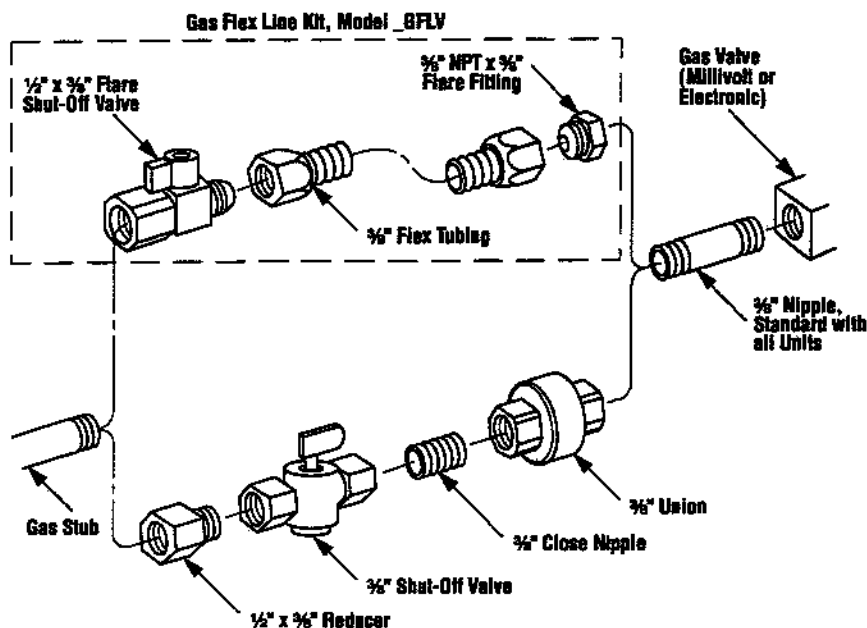

Figure 37
**Step 9. Connecting Gas Line** – Make gas line connections. All codes require a shut-off valve mounted in the supply line. Figure 37 illustrates two methods for connecting the gas supply. The flex-line method is acceptable in the U.S., however, Canadian requirements vary depending on locality. Installation must be in compliance with local codes.